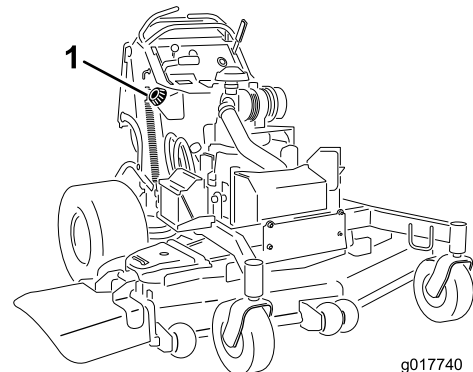

Figure 48
5. Using the syphon pump, drain the fuel into a clean gas can (Figure 48).